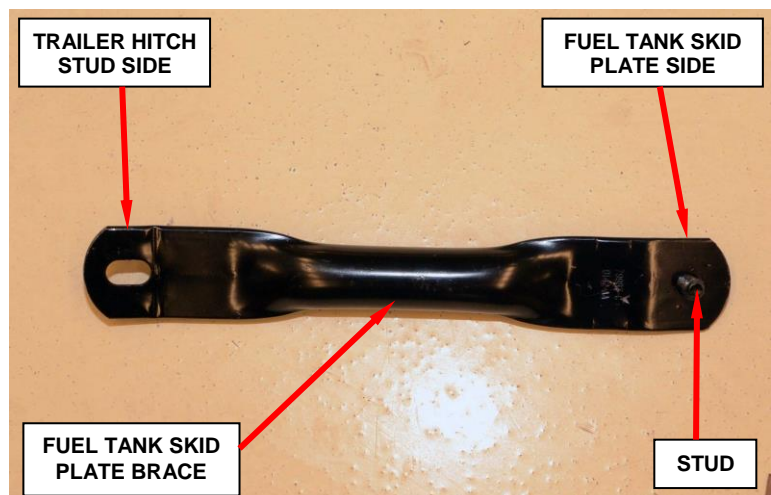

Figure 11 – Fuel Tank Skid Plate Braces
17. Install new fuel tank skid plate braces (Figure 11).